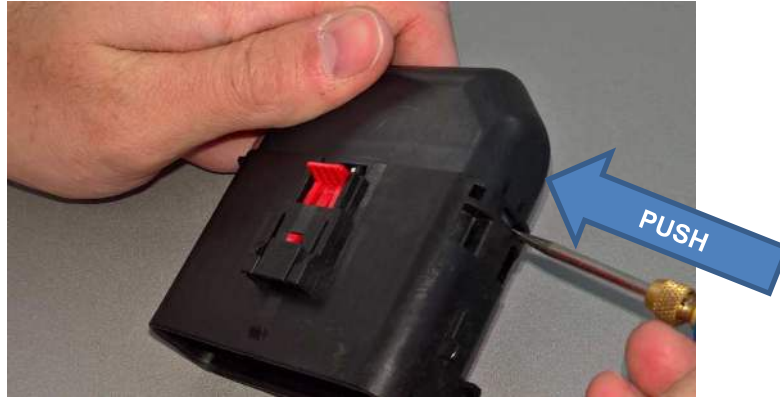

Figure 20
1. Using the tip of a screwdriver inserted into latch window of outer housing, release the latch of the wire dress cover by pushing inward on latch. See Figure 20.